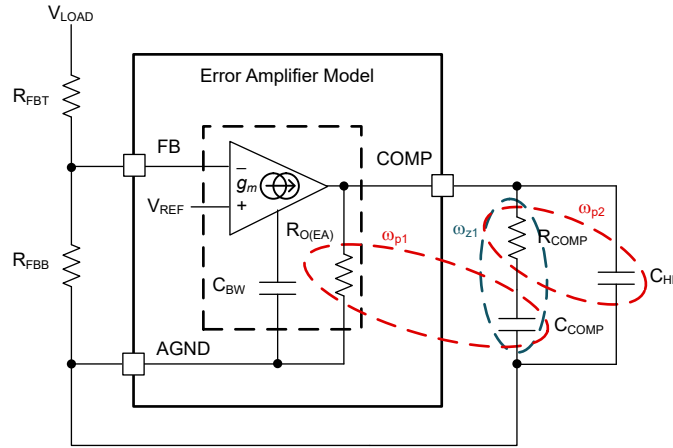

Figure 9-3. Error Amplifier and Compensation Network
Figure 9-3 shows a type-II compensator using a transconductance error amplifier (EA). The dominant pole of the EA open-loop gain is set by the EA output resistance, $R_{O(EA)}$, and effective bandwidth-limiting capacitance, C_{BW} , as shown by Equation 28.